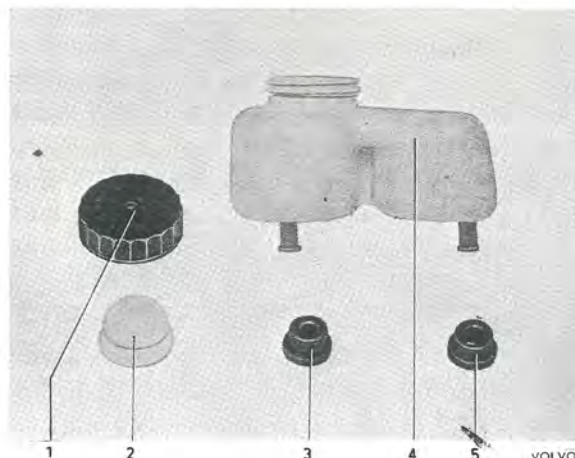
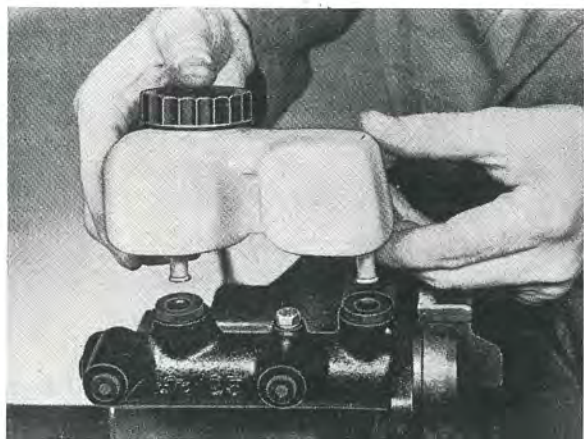

Fig. 5-46. Container parts
Fig. 5-45. Removing container
1. Fix the flange of the master cylinder firmly in a vise, see Fig. 5-45.
2. Place both hands under the container and pull it up from the rubber seals. Remove the filler cap and strainer from the container and also the rubber seals from the cylinder, see Fig. 5-46.
If wear on the cylinder or secondary piston is suspected, the diameter should be measured with a micrometer or indicator. The cylinder bore must not exceed 23.92 mm (0.942") and the diameter of the piston may not be less than 23.66 mm (0.931"). Each time reconditioning is carried out, replace the primary piston (3, Fig. 5-48) and the secondary piston (4, Fig. 5-48) complete as well as the stop screw (2) with washer and circlip (5), also the sealing ring (6). Moreover, the rubber seals (Fig. 5-46) for the container should be replaced.
7. Install the rubber seals (3 and 5, Fig. 5-46). Install the brake fluid container, see Fig. 5-45. Fill the container with brake fluid and bleed the cylinder. Place plastic plugs in the cylinder. Check to make sure that the vent-hole in the cap (1) is open and install the strainer (2) and cap in position.